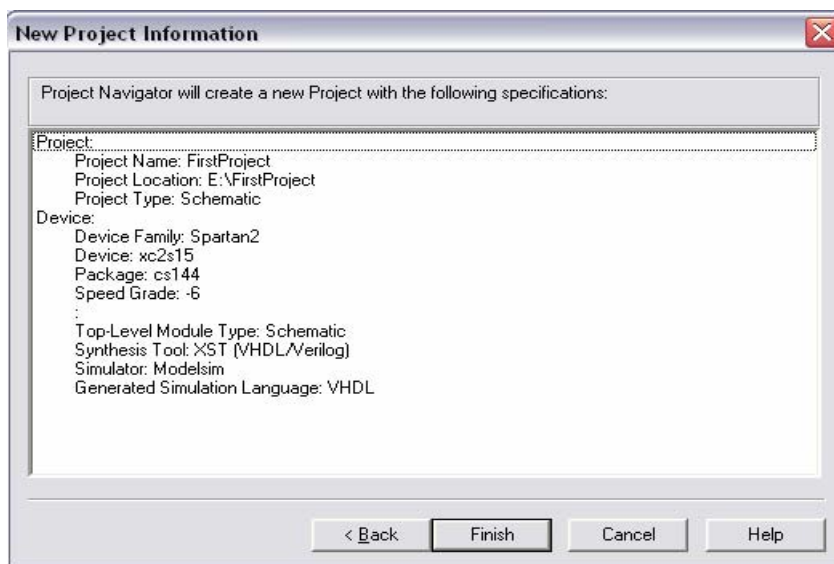

Figure 1. New Project Information
4. Click *Next* in the following three boxes, and click *Finish* in *New Project Information* screen after making sure that your settings are same as the settings given in Figure 1. Else, click *Back* and make necessary changes.